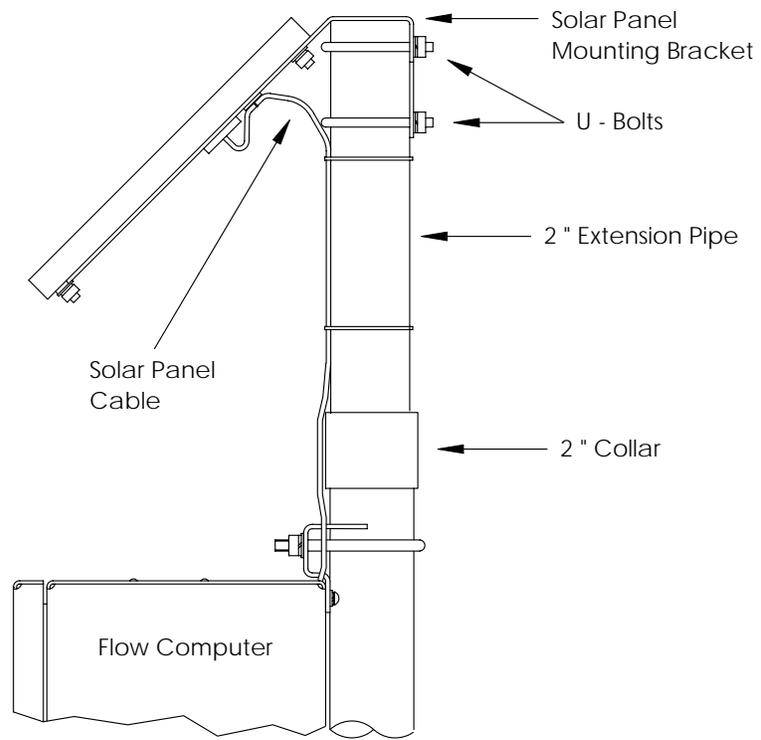

Figure 4 (Solar Panel Mounting)
1. Attach 2-inch pipe collar to top end of XFC or XRC mounting pipe. Securely tighten. (See Figure 4)